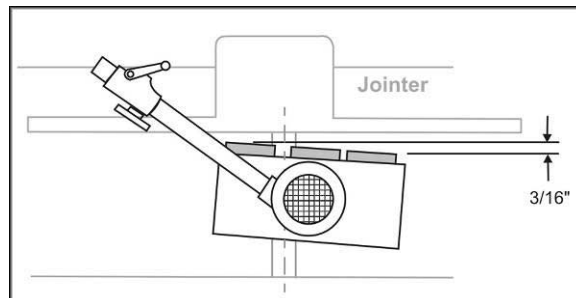

Figure 20
1. Mount the 3-roller stock feeder on a jointer so that the cutterhead is between the outfeed roller and the center roller (Figure 20). The 4-roller stock feeder can be positioned so that the cutterhead is between the center rollers.
- Rotate the Stock Feeder so that the direction of feed is angled slightly toward the fence by approximately 3/16" (5mm); that is, the outfeed roller should be slightly closer to the fence than the infeed roller. See Figures 20 and 21.